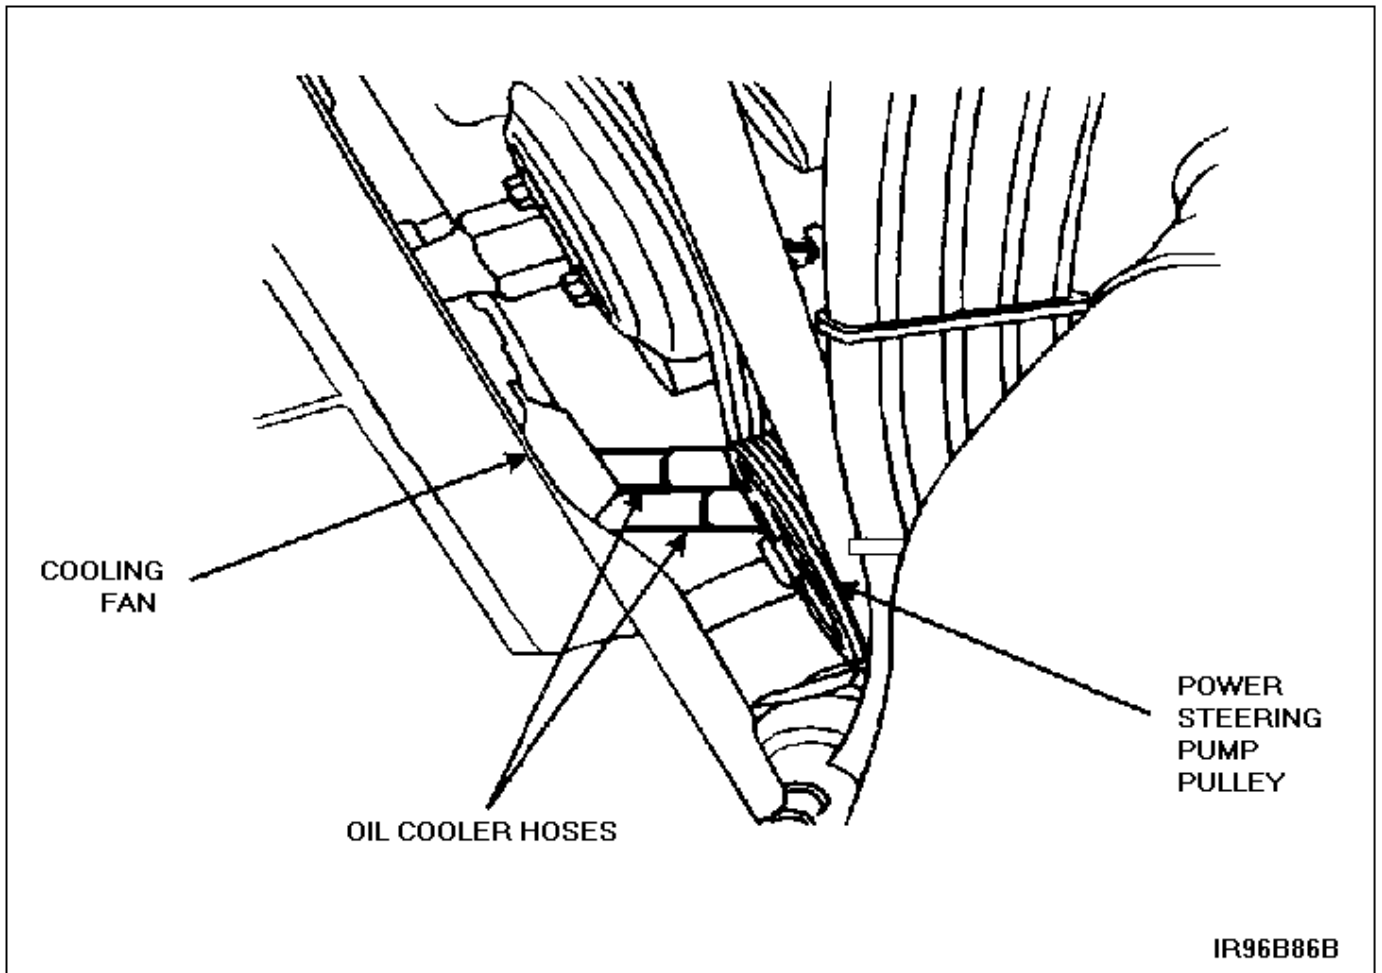

Figure 1
1. Inspect the engine oil cooler hoses to see if they are steel braided or rubber. The hoses can be viewed from under the hood looking down between the cooling fan and power steering pump pulley. Which type of hoses are installed on the cooler assembly? See Figure 1.